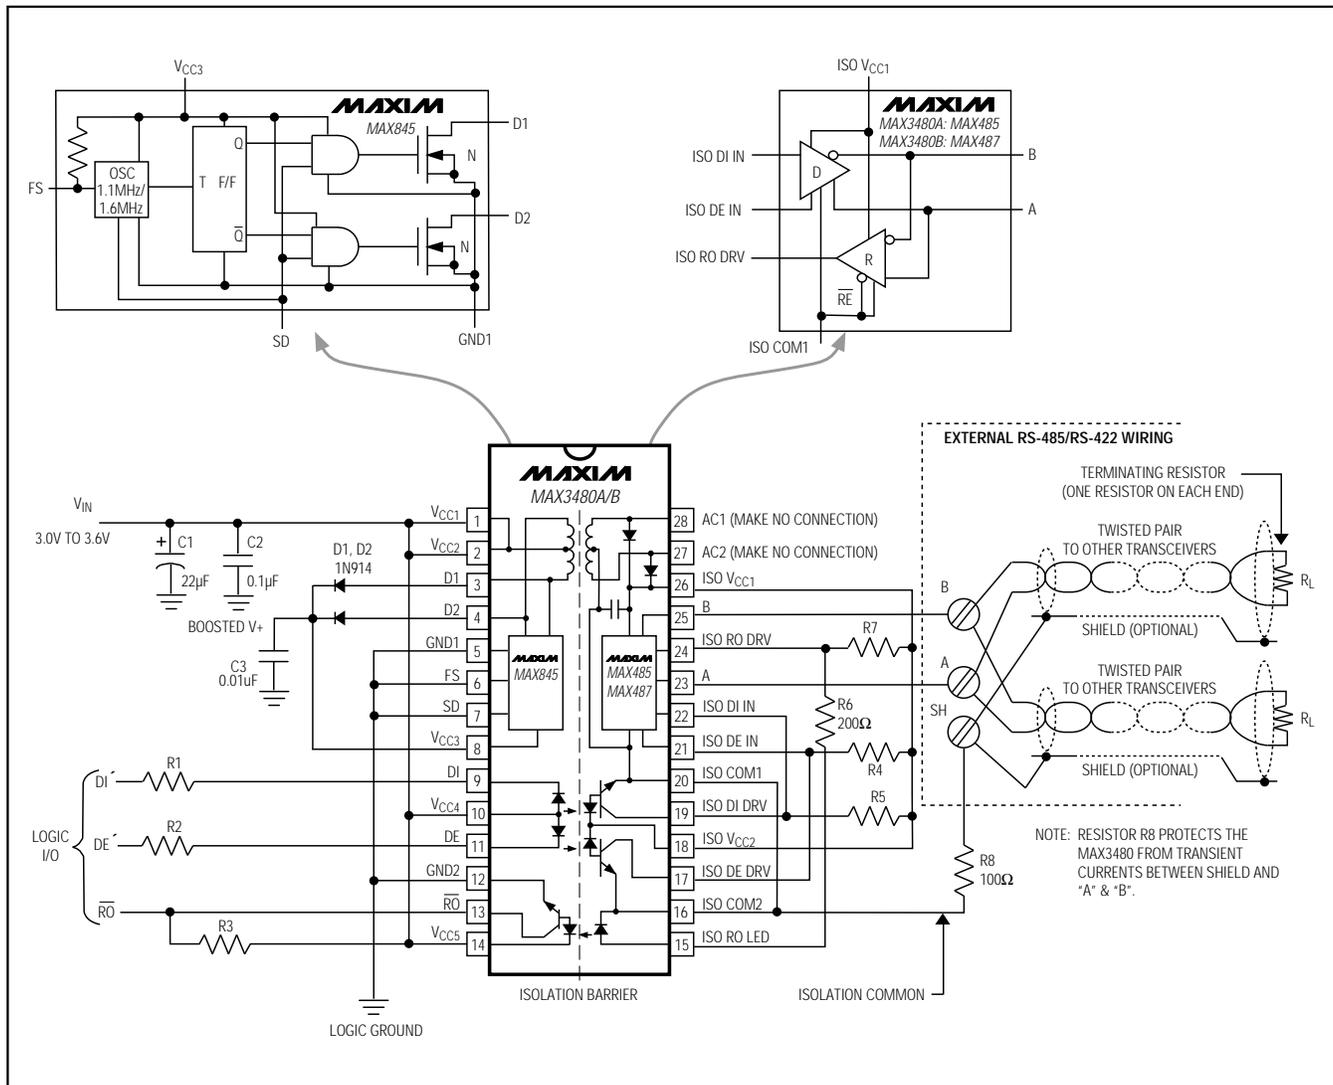

Figure 1. Detailed Block Diagram
**Note 2:** For DE1 and DI1 pin descriptions, see *Detailed Block Diagram* and *Typical Application Circuit* (Figure 1 for MAX3480A/MAX3480B).
The MAX3480A/MAX3480B are electrically isolated, RS-485/RS-422 data-communications interface solutions. Transceivers, optocouplers, a power driver, and a transformer are in one standard 28-pin DIP package. Signals and power are internally transported across the isolation barrier (Figure 1). Power is transferred from the logic side (non-isolated side) to the isolated side of the barrier through a center-tapped transformer. Signals cross the barrier through high-speed optocouplers. A single +3.3V supply on the logic side powers both sides of the interface.